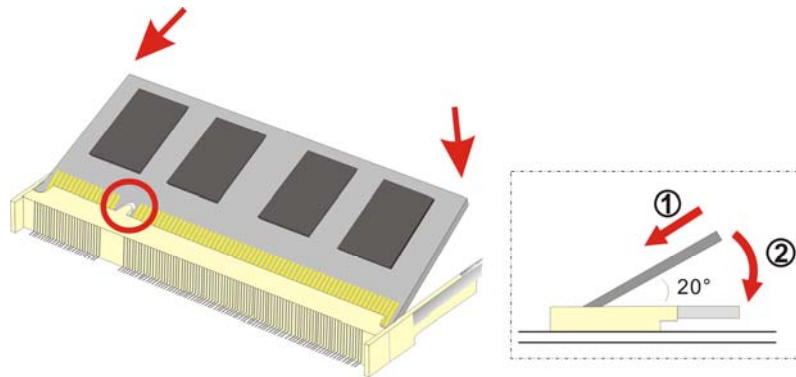

Figure 5-4: DDR SO-DIMM Module Installation
Step 6: Install the new DDR memory module by pushing it into the socket at an angle (**Figure 5-4**).
Step 7: Gently pull the spring retainer clips of the SO-DIMM socket out and push the rear of the DDR memory module down (**Figure 5-4**).